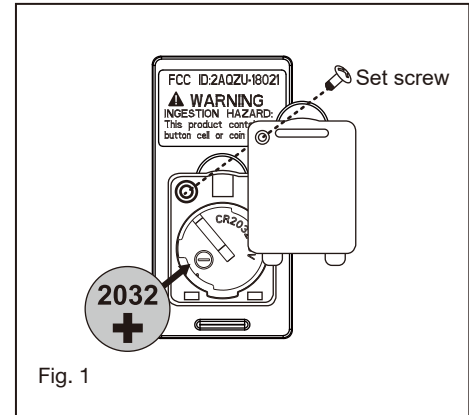

Fig. 1
- 1 Fasten blade to motor with provided blade screws and flat washers. Repeat procedure for remaining blades. Make sure screws are **TIGHT!** Loose motor screws can contribute to unnecessary hum during operation. (Fig. 1)
- 1 While holding the LED assembly under your fan, make the polarized plug connections: (Fig. 1)
- 5 While holding the Lamp shade under your fan. (Fig. 1)
- 6 Raise the Lamp shade against the fan and turn clockwise until snug, DO NOT OVERTIGHTEN. (Fig. 1)
- 1 Select a desired location. Use the wall plate to mark the location of the mounting holes. Plastic wall anchors or mounting screws are needed for this application. (Fig. 1)
Remove the panel from the transmitter and then install one 2032 battery (included). You need to use a screwdriver to open or close the battery cover. To prevent damage to transmitter, remove the battery if not use for long periods of time (Fig. 1)